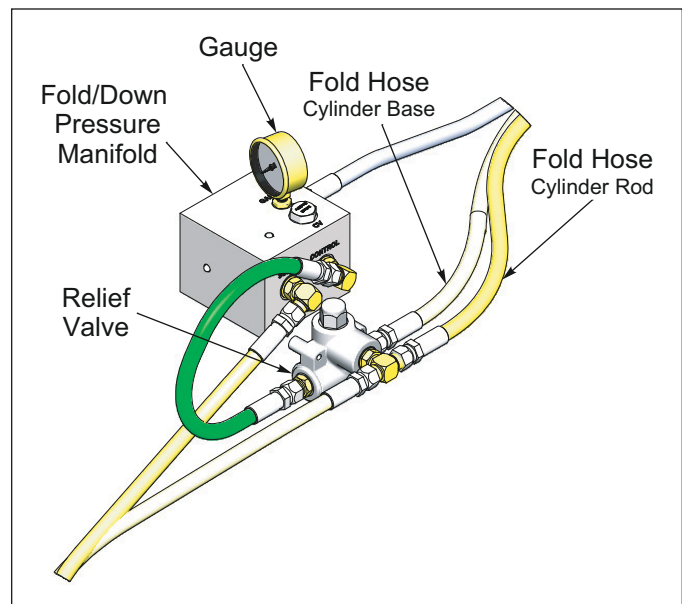

Figure 2-22: Fold/Down Pressure Valve
4. Install the Fold/Down Pressure Valve and Relief Valve fittings and hoses. **See Figures 2-22 and 2-23.**